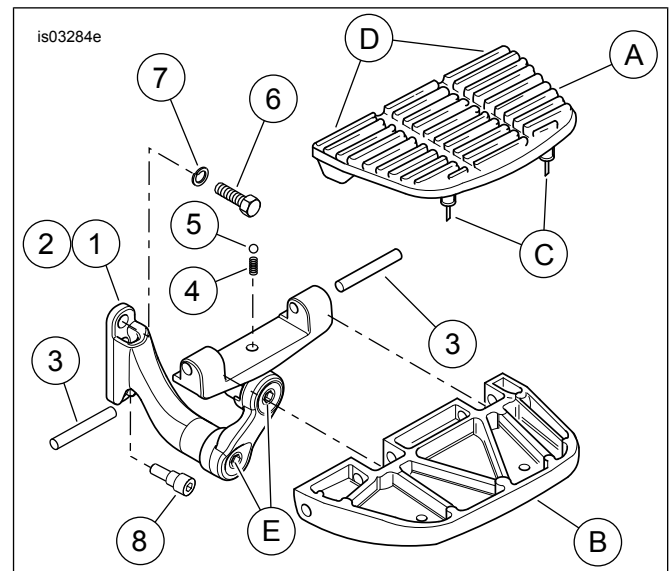

Figure 1. Service Parts: Adjustable Footboard Mounting
See Figure 1 and Table 1.
2. Remove the footboards from the footboard supports by carefully lifting up on the inside corners (D) of the footboard's rubber pad to expose the pivot pins (do not fully remove the footboard pad from the footboard as it would be difficult to install).
4. See Figure 1. Install the new footboard supports using the hardware from this kit. Start the screw (6) and screw (8) into the bracket but do not fully tighten.
5. Tighten screw (6) to 48.81–56.94 N·m (36–42 ft-lbs).
6. Tighten screw (8) to 5–8 N·m (48–72 in-lbs).
7. Install springs (4) into the retaining holes in the footboard supports. Place a steel ball (5) on top of each spring.